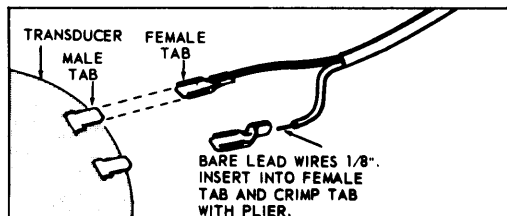

Figure 1. Connection of Wire to Transducer
5. Connect the wire from the sound source to the Rolen-Star Audio Transducer by using the female tabs furnished with each Transducer FIGURE 1).